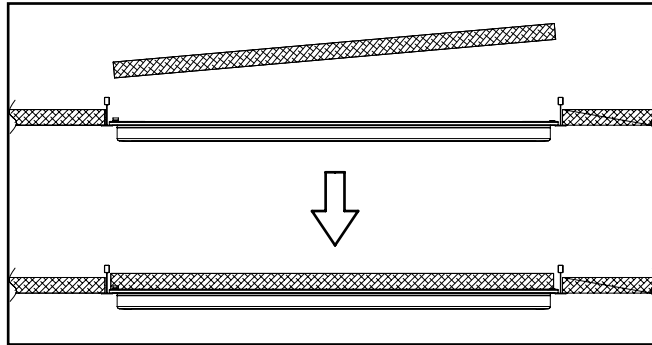

Figure 7.
- Place tile back above light fixture. See Figure 7. Drill or notch as needed to ensure tile lays flat.